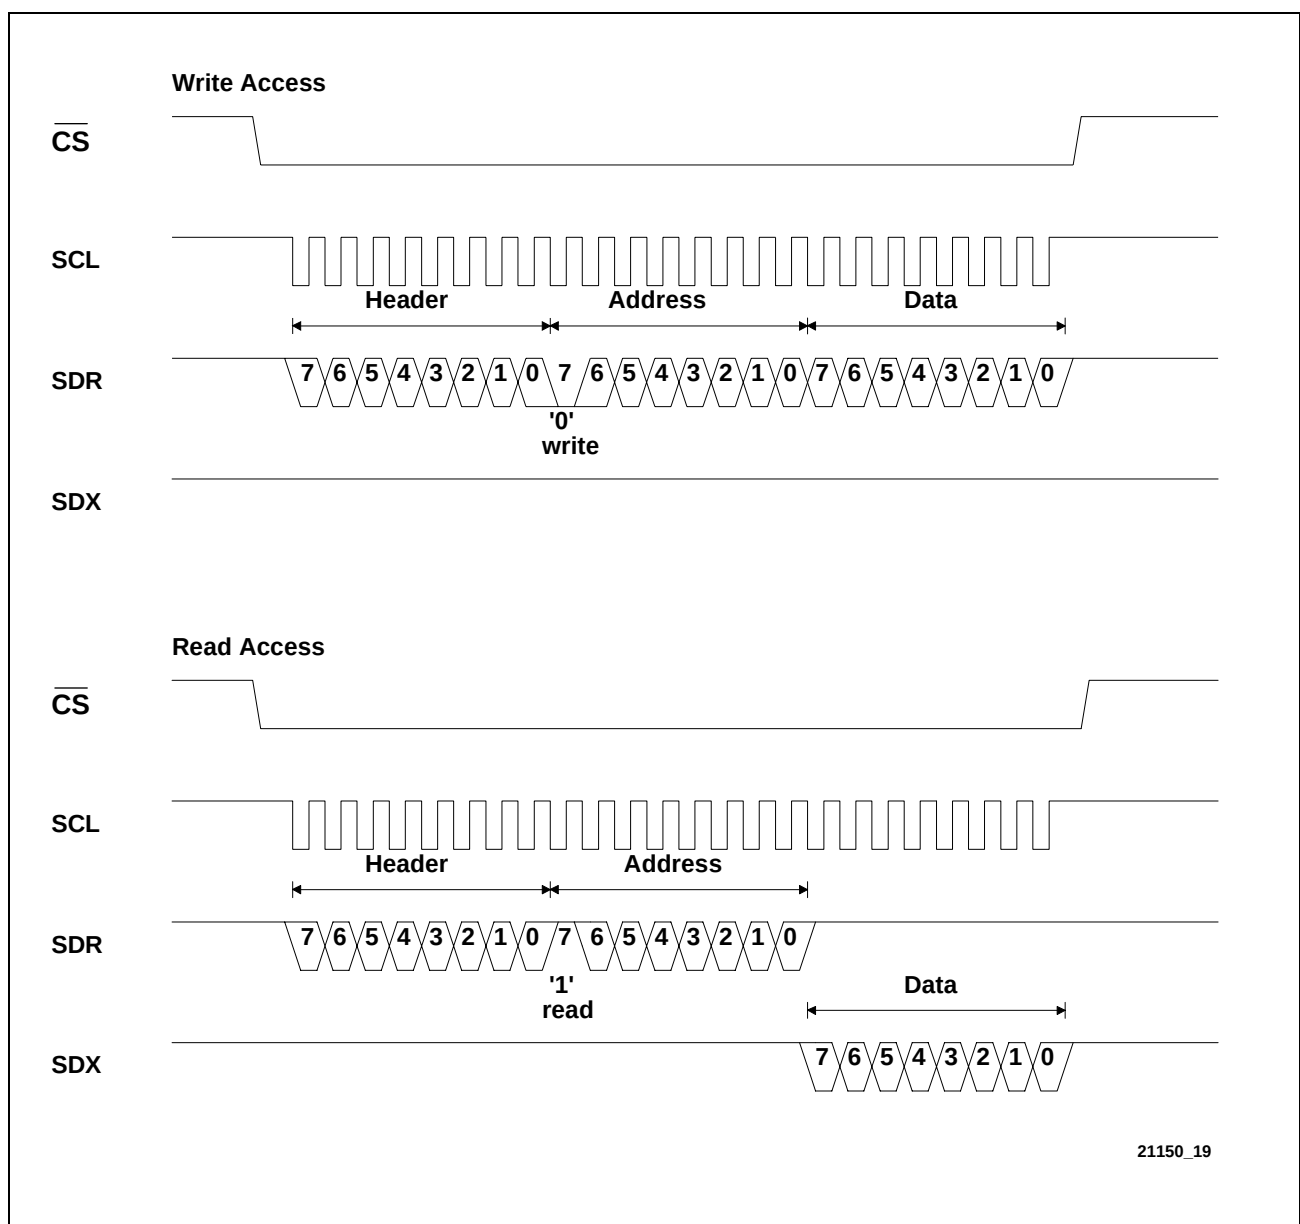

**Figure 5** Serial Control Interface Timing
**Figure 5** shows the timing of a one byte read/write access via the serial control interface.